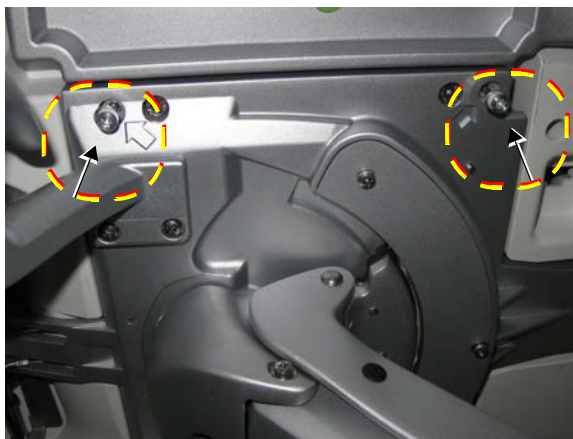

Figure 8-50 Loosening the Captive Allen Screws beneath Keyboard Assembly - Left Side
- 4) Loosen the two captive Allen screws on the *left* side, as shown in Figure 8-50 below (arrows marked in the figure indicate the screw locations).